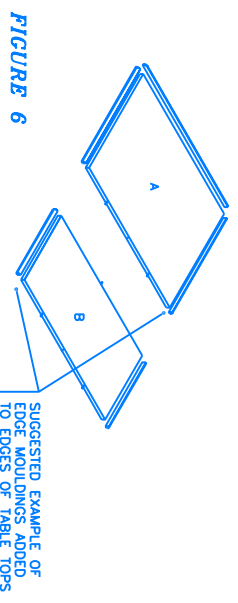

FIGURE 6
- 10) Remove the leaf sections B and attach the edge moldings of your choice to the outer edges of the table top sections. You may wish to purchase solid stock moldings as is shown in figure 6 or use iron-on edge tape.